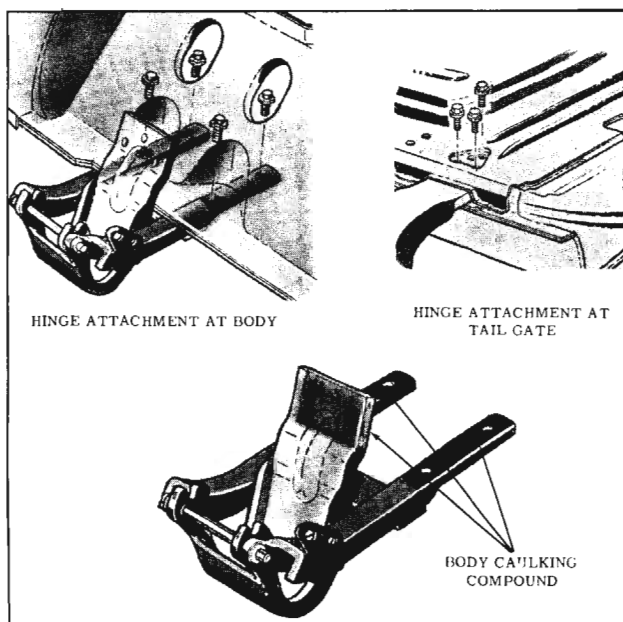

Fig. 16-183 Hinge Sealing and Installation
10. To install, reverse the procedure, align the tail gate and reseal water deflector. Apply body caulking compound around hinge where it enters the tail gate. (Fig. 16-183)
7. To install, reverse the removal procedure. Apply heavy-bodied sealer to the attaching surfaces of hinge straps or corresponding surfaces of the body and tail gate. (Fig. 16-183)